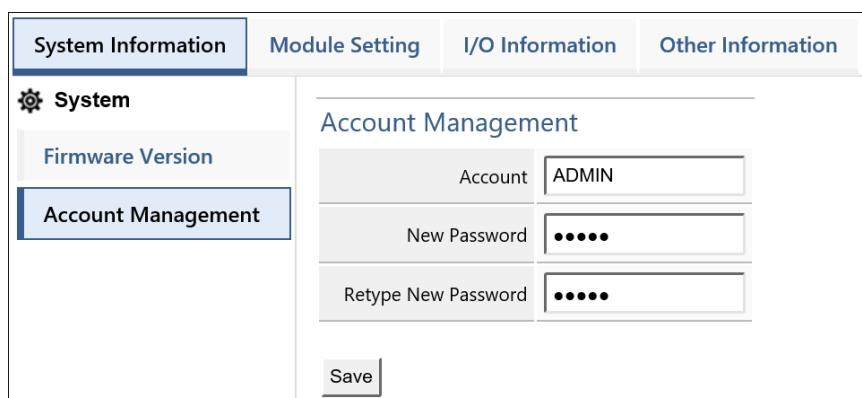

Figure 2.4 Product Login Page
**Step1** Once the PC and MDC-211-WF are in the same LAN, user can login the MDC-211-WF by entering the IP address on Web browser (IE11/Chrome/Firefox, resolution 800 x 600 or more is recommended), the login screen is shown as Figure 2.4: